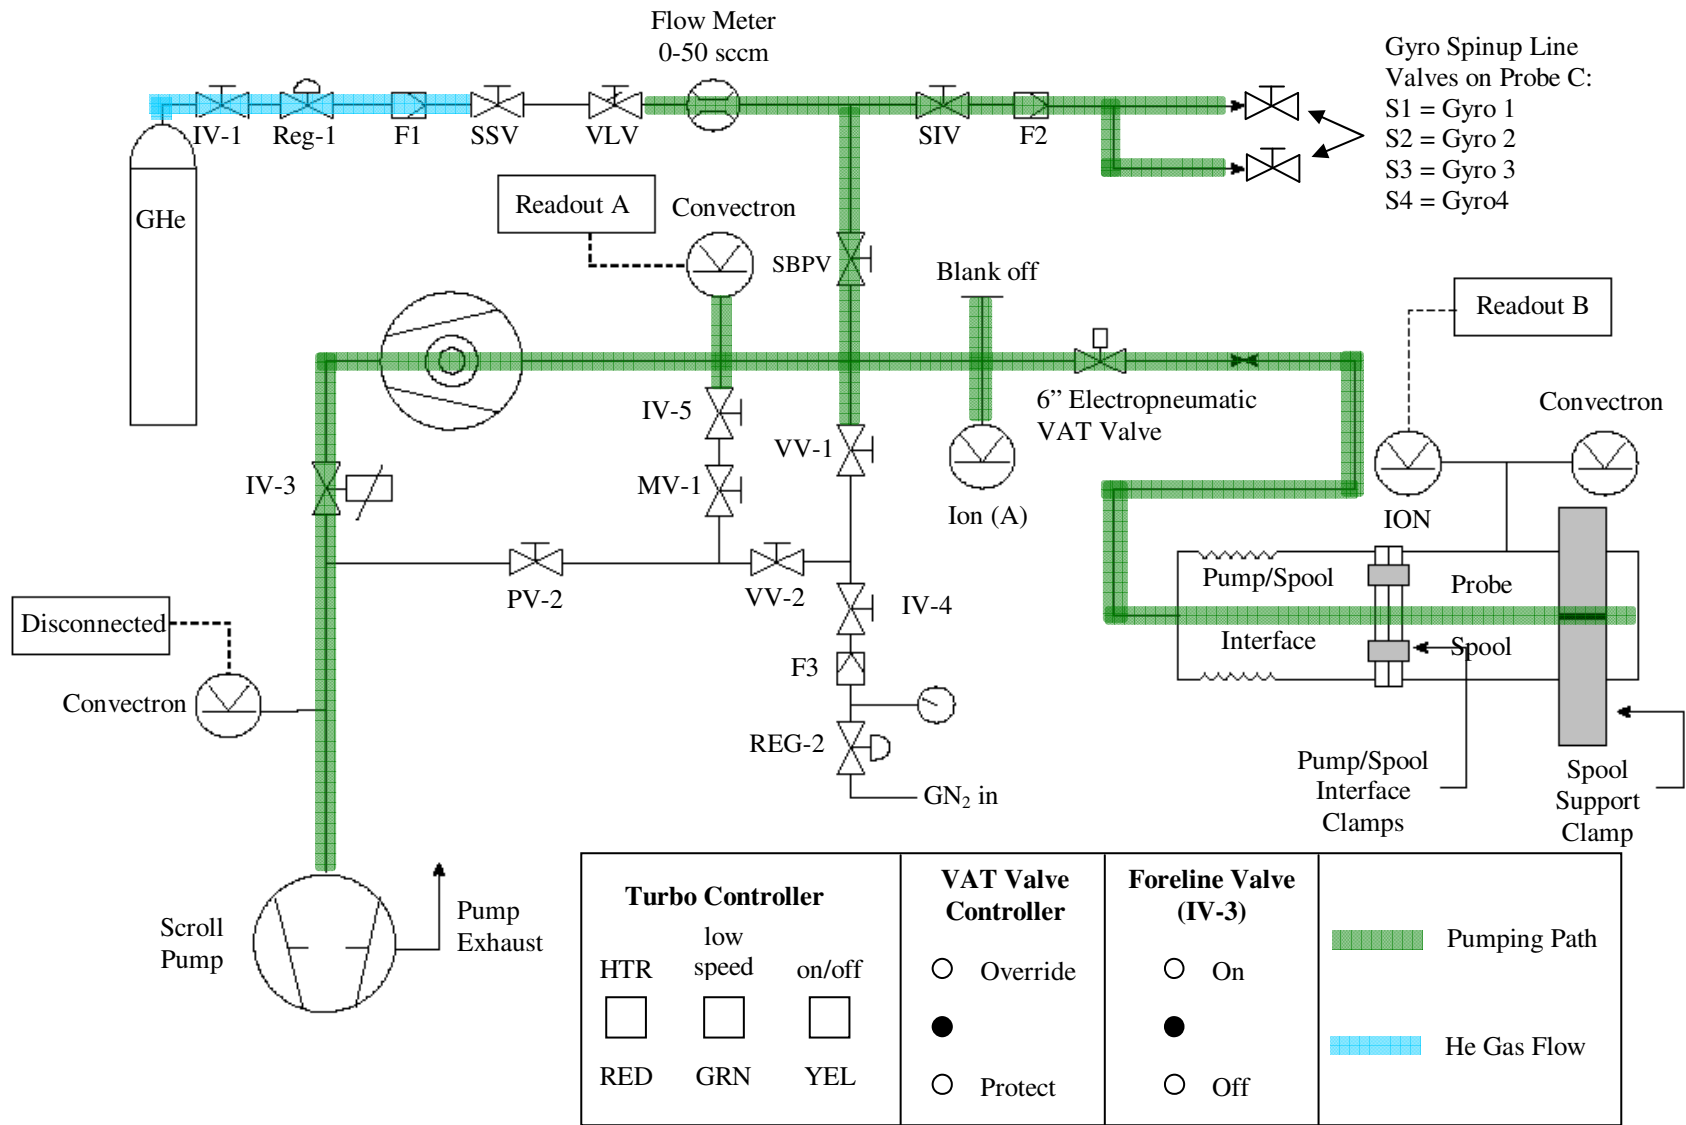

Figure 5: Vacuum System Configuration at end of Procedure
6.4.4 Set the Gate Valve Protect Switch to Protect. Verify that the system is in the following state (per Figure 5) _____